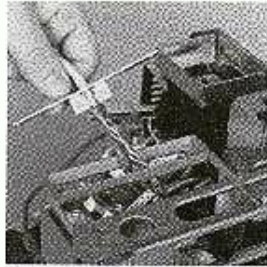

Figure 3-18
- b. Thread the host connector cable through the accessory access opening as shown in Figure 3-18.